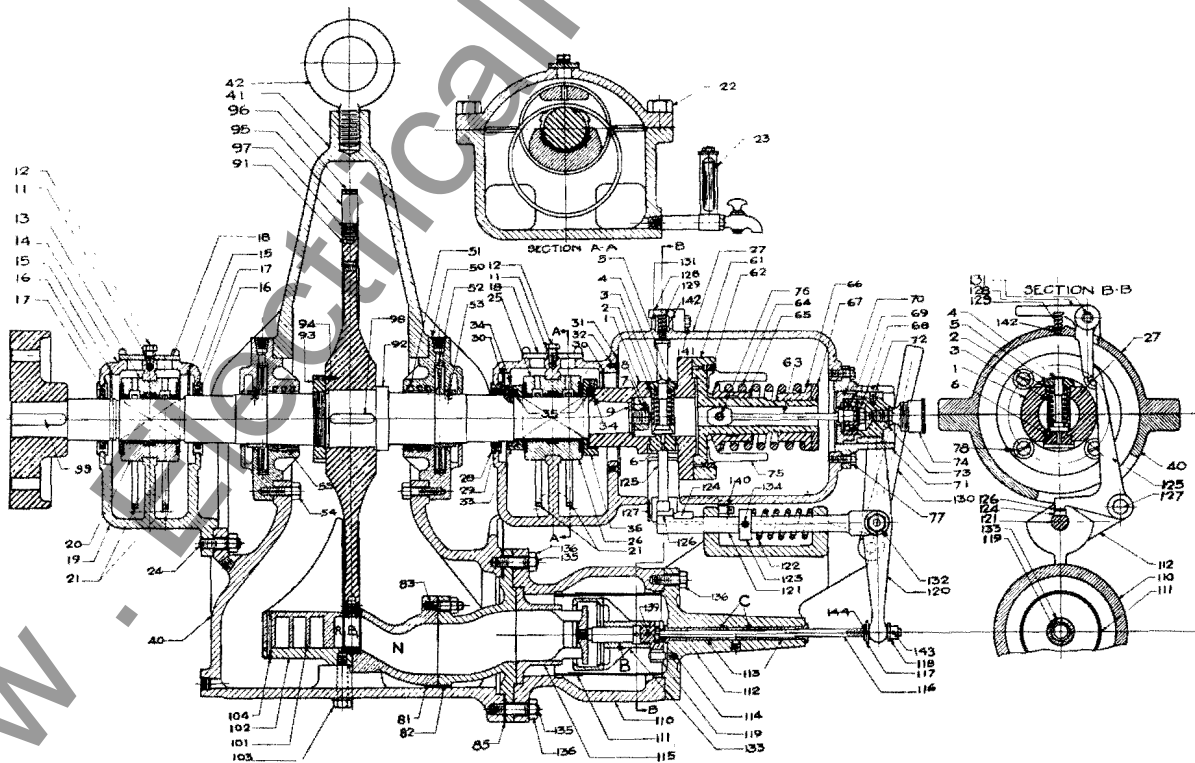
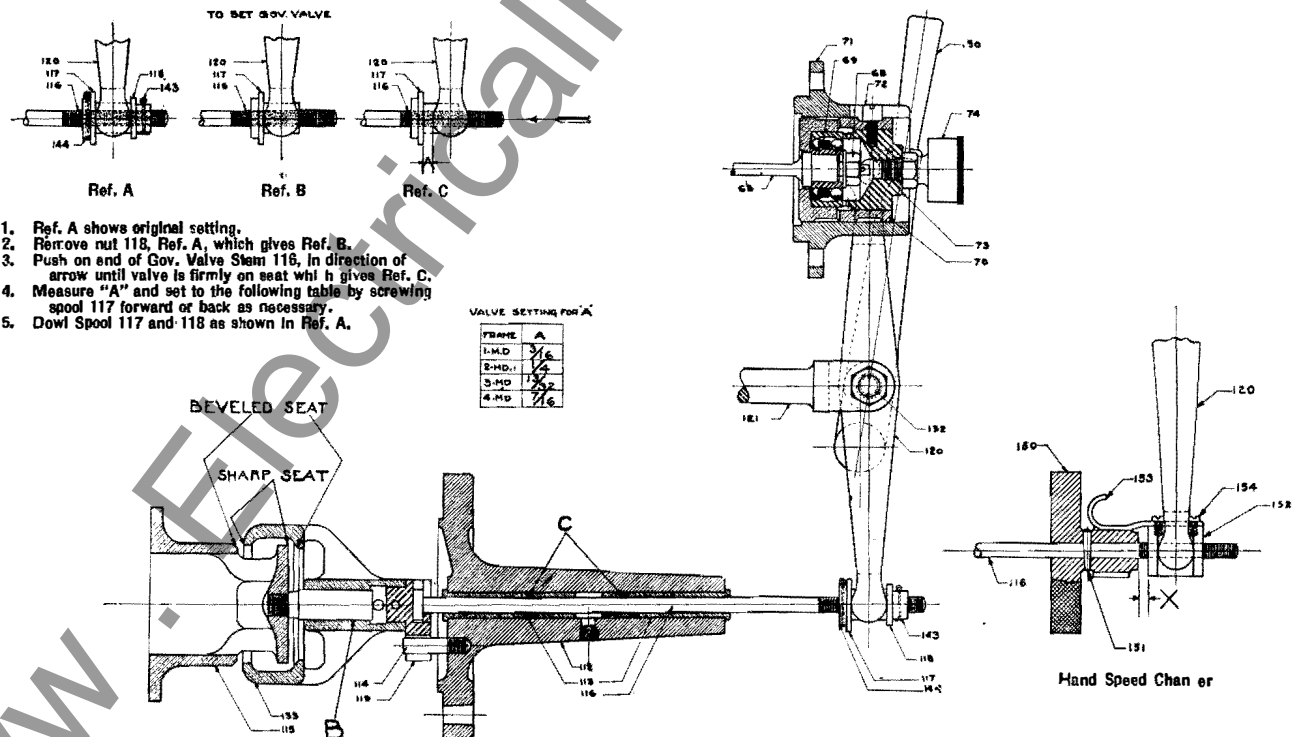
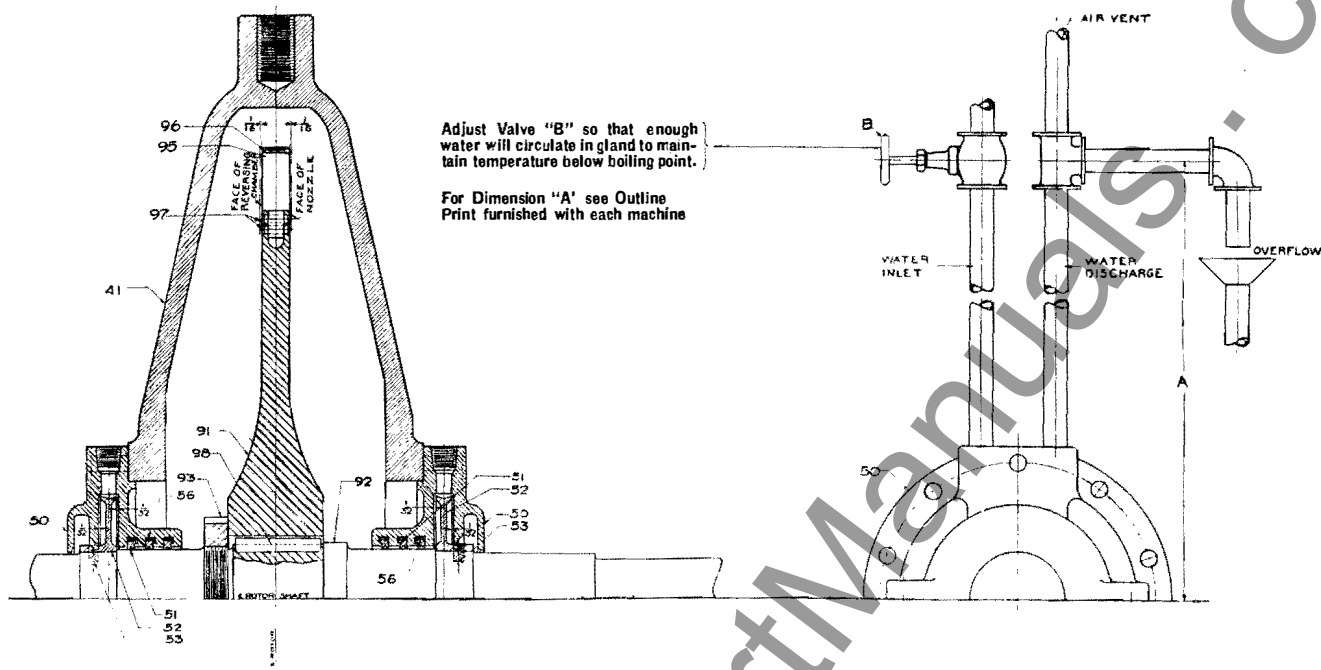

Fig. 2
Fig. 4
FIG. 6
The Westinghouse steam turbine of the mechanical drive type is essentially a single wheel with blades mounted on its periphery. Refer to Fig. 2. Steam enters the nozzle block "N" through suitable passages in the cylinder casting. The steam expands in the nozzle transforming this heat energy into velocity. Having reached its maximum velocity at the mouth of the nozzle, the steam impinges upon the blades "B" which causes them to move forward, thus revolving the turbine wheel. By the rotation of the wheel the heat energy of the steam is transformed into work at the turbine coupling.
The rotating element consists of a shaft, carrying the rotor, supported by two ring oiled bearings. The rotor is pressed on the shaft with a tapered press fit and is held in place by nut (93) (Fig. 2) which in turn is locked by set screw (94). A loose rotor may result from overspeeding of the turbine and is evidenced by vibration. If a loose rotor is suspected it should be pressed off the shaft and the fit examined. In putting on a new rotor, be sure that a good fit is obtained. The rotor should slide upon the shaft until it is 1 inch from the hub and must be pressed on the rest of the distance.
The auto stop is located in the governor hub (1) Fig. 2 and consists of a weight (4) which operates against spring (3) held in place by retaining nut (5) and plug (6).
The pin (4) (Fig. 2) is forced out by centrifugal force compressing the spring (3) and comes in contact with knock off lever (125) (Sec. B-B) disengaging the latch plates (124 and 126) and allowing the spring (122) which is under compression, to pull the governor mechanism inward, forcing the governor valve (133) hard on its seat (115).
The governor is of the horizontal centrifugal type. It is centered on the governor hub and bolted thereto by four counter-sunk screws. The governor body (61) (Fig. 2) is made in one solid piece and supports the knife edge bearings (62) as shown. Each governor weight is made in one piece, thus eliminating the possibility of dislocation of separate knife edges. The lower toe of the governor weight has the shape of a gear tooth. It is pivoted on the knife edge machined integral with the weight. Both the toe and knife edge are case hardened. The spring sleeve (65) is also hardened and is held against the toe of the governor weight by the tension of the spring (64).
To increase the speed of the turbine, increase the compression of the governor spring (64) (Fig. 2) by means of the adjusting nut (66). To decrease the speed, screw back on the adjusting nut. Always lock the adjusting nut (66) by the lock nut (67) after any change. One full turn of the nut either way should change the speed about 100 rpm.
The motion of the governor weights is transmitted through the governor spindle pin (76) (Fig. 2) to the governor spindle (63) (Figs. 2 and 4). This spindle is in turn connected to a self aligning ball bearing (69) located in the thrust bearing case, (70) which in turn is supported by the turbine housing in the thrust bearing housing (71). Referring to (Fig. 4) the main poppet valve lever, (120) has its upper end built in the form of a trunnion, which attaches itself to the lugs on the thrust bearing case (70). On (Fig. 2) it will be seen that the poppet valve lever is pivoted on the automatic stop ram (132). The lower portion of the poppet valve lever is built in the form of a split spherical cam, operating against the poppet valve stem spools (117 and 118) (Fig. 4).
The thrust bearing (69) (Figs. 2 and 4) is enclosed in a brass housing, in the end of which is screwed a grease cup to lubricate the bearing. This bearing should receive an ample supply of grease and the small oil hole on the top of the supporting case (71) should be occasionally given a squirt of oil.
To disassemble the governor linkage, lift off the turbine bearing cover (27) (Fig. 2) and loosen governor spring lock nut (67). Governor spring nut (66) may then be loosened to its fullest extent so that the governor weights may be taken out. Pull spring (64) toward the governor thrust bearing and take out governor spindle pin (76). Take off auto stop hand lever (130) and drive out poppet lever pivot pin (132). Unscrew poppet valve stem spool nut (143) and pull governor linkage straight back. The disassembling of the governor thrust bearing case is self evident.
The steam chest (110) (Fig. 2) is located directly under the governor housing and is bolted to the cylinder base, being centered on the nozzle extension piece (82) at the same time forming a tight joint between the governor poppet valve seat (115) and the nozzle extension piece (82). The steam chest also holds the governor poppet valve seat (115) in place and likewise centers it. Surrounding the governor poppet valve and held by the steam chest casing, is the steam strainer (111) (Fig. 2). The steam chest cover (112) (Figs. 2 and 4) is bolted directly on the end of the steam chest and forms the support for the automatic stop linkage, and for the governor poppet valve stem. This cover is bushed by brass bushing (113) which has a fine clearance between itself and the poppet valve stem (116). At the center of the bushing a space is left open which forms a steam leak off to assist in sealing the steam so that it does not pass out along the poppet valve stem. This passage is tapped with a pipe connection so that a slight leak at
The governor poppet valve is located inside the steam chest. It is of the double seated type and is held directly against the nozzle extension piece (82) (Fig. 2) by means of the steam chest itself. The joint between the steam chest flange and the nozzle extension piece should be left open so that sealing will occur at the joint between the steam chest and the governor poppet valve and the nozzle extension piece. This joint is hand scraped to make it steam tight. Screwed into the governor valve seat is a guide pin which forms the support for the governor poppet valve itself, so that with distortion of the governor poppet valve seat, the valve will properly center itself. It is essential that the fit between the governor poppet valve and its seat be kept as close as possible, but where the steam contains considerable scale, this fit must necessarily be increased in order to prevent sticking at this point. The governor poppet valve is prevented from turning on this seat by pin (114) screwed into the steam chest cover. It is essential that the fit between this pin and the valve be smooth so that no sticking will occur at this point.
The governor poppet valve coupling (119) (Fig. 4) is made of steel and functions as a flexible joint between the valve and the valve stem. Its construction is readily apparent from the illustration.
and will cause hunting of the turbine. A test of whether the valve is leaking too badly for use may be applied as follows: With the valve held firmly on its seat by hand, a full head of steam should be turned on and if the turbine begins to revolve it is evident the leakage of the valve is too great for practical use. If the turbine does not turn over, even though there is considerable leakage, no harm is done by using this valve. In case a valve leaks too badly, it must be removed and re-seated. In reseating, do not bevel seats indicated as sharp on (Fig. 4), but face off these seats to maintain line contact.
Reference to Fig. 4 shows the position of the poppet valve and the poppet valve stem as it will be received from the factory. Before operating a machine, the setting of the governor poppet valve should be checked and if any work has to be done on the governor linkage, the valve travel should again be set and adjusted, if necessary. To adjust the governor poppet valve (133) take out the cotter pin (143) from nut (118) which
The nozzles (81) (Fig. 2) and reversing chambers (101) are located in the cylinder base. When making any setting on the turbine, adjust the rotor so that there will be one-sixteenth of an inch clearance between the blades and the reversing chamber; in other words, set the turbine rotor centrally before making any adjustment on the machine. After setting the rotor centrally check up the clearance on the gland runners (52) as shown on Fig. 6. With these clearances correct, adjust the thrust bearing to hold the rotor in this position.
by means of a liner between the nozzle extension base flanges and the cylinder base flange, as shown at (85) (Fig. 2). In setting new nozzles and reversing chambers, refer to Fig. 2 and note that the reversing chamber should be set as shown so that it will be flush with the nozzle. It is important that the reversing chamber be so set as to catch all steam emerging from the blades.
the same general manner, the grooving is different on the thrust bearing. In order to allow proper lubrication of the thrust face, and on the bearing particularly, it is important that this grooving be properly made. The thrust bearing should be set for end play to the clearances, as given in the table. This clearance may be adjusted by taking out the bearing complete and sliding the collars (33 and 36) (Fig. 2) forward and either putting in or taking out liners at (35). It is essential that these clearances be properly set in order to get good results.
The glands on this type of turbine shown on Fig. 6 are of the combination labyrinth and water sealed type. The labyrinth packing (51) is placed inside of the gland runners so that for cases of very low speed, where the runner is of little value, the labyrinth packing accomplishes the sealing of the gland. This packing should be very carefully fitted in the gland, allowing it to have about three thousandths of an inch side clearance in its groove so that they may be free to move forward and backward under the action of the shaft and the packing ring springs (56). In making an inspection of the glands, the gland horizontal flange bolts should be re-
Valve "B" (Fig. 6) should be so adjusted that enough water will circulate through the glands to maintain a temperature slightly below that of the boiling point.
in the following manner: Assume that the motor is pulling the full load with the turbine running idle, and it is desirable to introduce steam into the feed water heater for heat balanced regulation. The hand speed changer, as shown on Fig. 4, may then be brought into operation so that the turbine speed is slightly raised. The speed of the turbine by this speed changer can then be regulated so as to take any portion or all of the load from the motor.
Refer to Fig. 4, Page 5, showing cut of hand speed changer. Adjusting nut lock (152) is dowelled to the poppet valve stem. The adjusting nut (152) is threaded so that the stem may be screwed in to or out of this nut while spring (153) riding in slots in the adjusting nut lock is used for locking the final position.
5. Clearance on either side of gland runners, (52) (Fig. 6) Page 8.